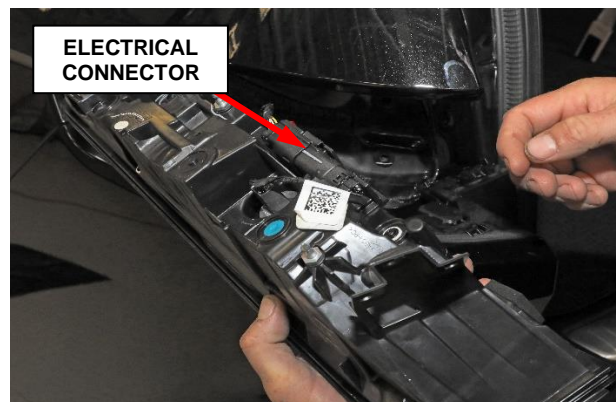

Figure 8 – Electrical Connector
3. Disconnect the wire harness electrical connector (Figure 8).
- Connect the wire harness electrical connector to the **NEW** lamp (Figure 8).